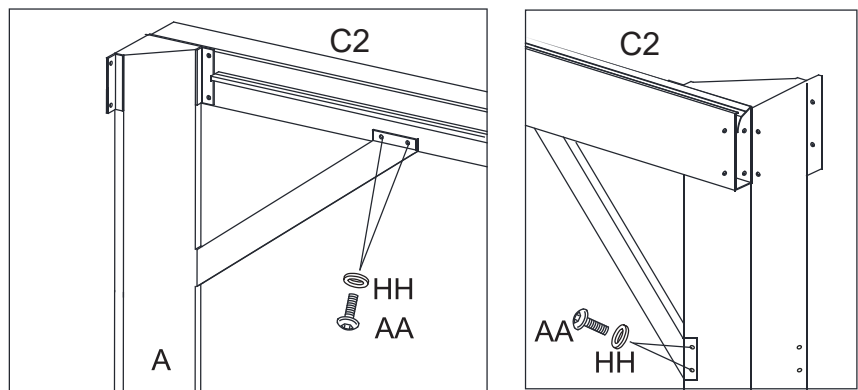

Figure 4.3
4.3. Attach Support Bars (F1/F2) to Corner Post (A) and to Lintels (C1/C2) with Bolts (AA) and washer (HH). See Figure 4.3.